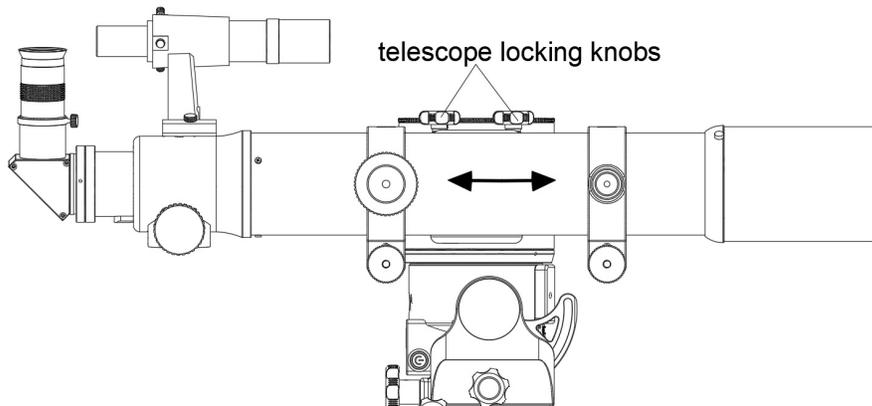

Fig. 12
* For non-tube ring mounting, keep holding the telescope, slightly loosen the two telescope locking knobs and slide the dovetail bar in the saddle to obtain balance and then firmly tighten the two telescope locking knobs.(Fig.12)